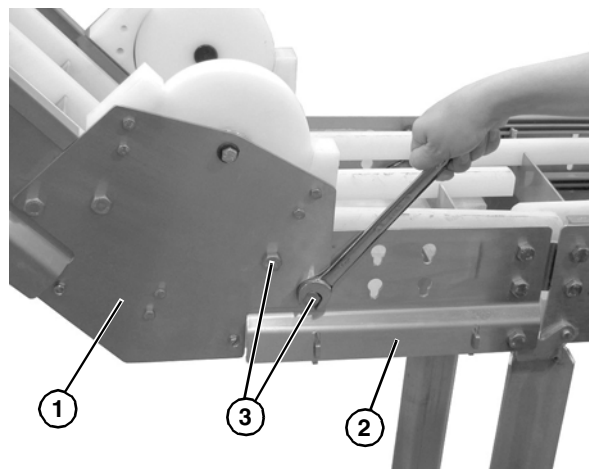
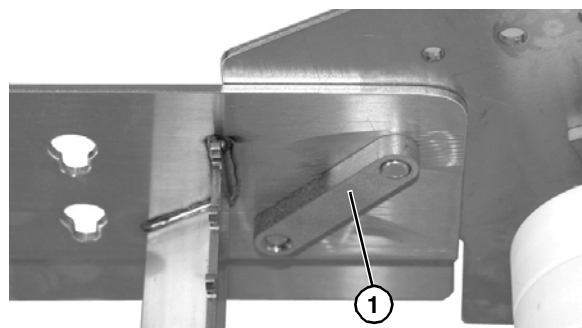

Figure 10
Figure 11
1. Attach lower knuckle (**Figure 10, item 1**) to frame (**Figure 10, item 2**) by using two cap screws (**Figure 10, item 3**) and connector plate (**Figure 11, item 1**) on each side of conveyor.